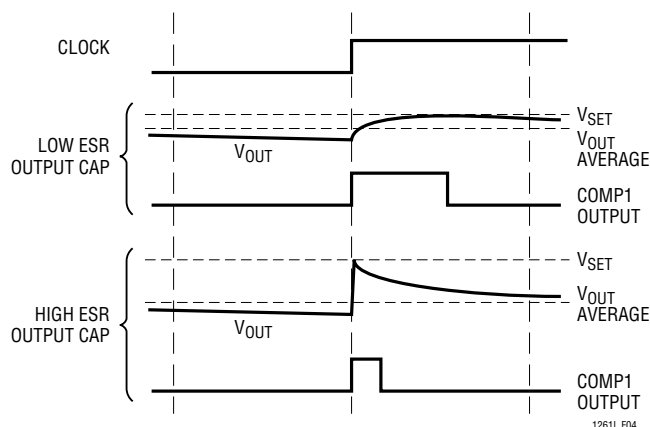

Figure 4. Output Ripple with Low and High ESR Capacitors
3.3 μ F tantalum capacitor has 1 Ω or 2 Ω of ESR; 100mA \times 2 Ω = 200mV. If the output is within 200mV of the set point this additional 200mV surge will trip the feedback comparator and terminate the charging cycle. The pulse dissipates quickly and the comparator returns to the correct state, but the RS latch will not allow the charge pump to respond until the next clock edge. This prevents the charge pump from going into very high frequency oscillation under such conditions but it also creates an output error as the feedback loop regulates based on the top of the spike, not the average value of the output (Figure 4). The resulting output voltage behaves as if a resistor of value $C_{ESR} \times (I_{PK}/I_{AVE})\Omega$ was placed in series with the output. To avoid this nasty sequence of events, connect a 0.1 μ F ceramic capacitor in parallel with the larger output capacitor. The ceramic capacitor will “eat” the high frequency spike, preventing it from fooling the feedback loop, while the larger but slower tantalum or aluminum output capacitor supplies output current to the load between charge cycles.